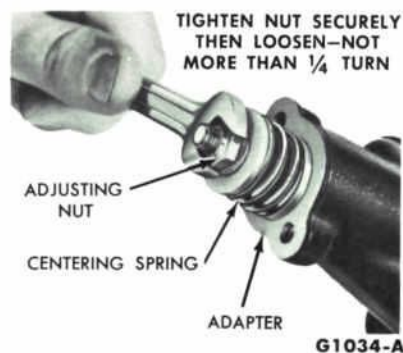

FIG. 36—Centering Spring Adjustment
8. Place the adapter on the centering spring end of the housing, and install the bushing, washers, spacers, and centering spring on the valve spool bolt. Compress the centering spring, and install the nut on the bolt. After tightening the nut securely, loosen it not more than 1/4 turn (Fig. 36). Excessive tightening of the nut may break the stop pin at the travel regulator stop.